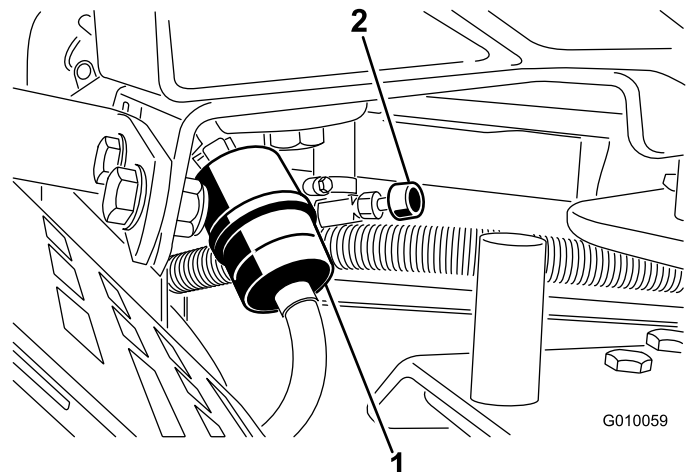

Figure 50
2. Close the fuel-shutoff valve (Figure 50).
3. Squeeze the ends of the hose clamps together and slide them away from the filter (Figure 50).
5. Install a new filter and move the hose clamps close to the filter (Figure 50).
7. Open the fuel-shutoff valve (Figure 50).
3. Loosen the hose clamp at the fuel filter and slide it up the fuel line away from the fuel filter (Figure 50).
4. Pull the fuel line off the fuel filter (Figure 50). Open the fuel-shutoff valve and allow fuel to drain into a fuel can or drain pan.
5. Install the fuel line onto the fuel filter. Slide the hose clamp close to the fuel filter to secure the fuel line (Figure 50).